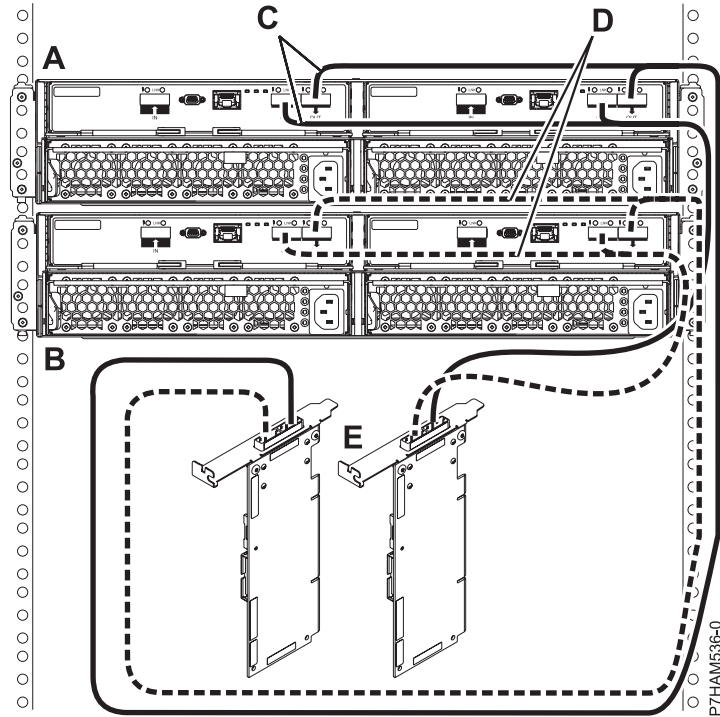

Figure 38. Mode 1 connection of two 58/87 disk drive enclosures by using YO cables to a SAS adapter pair
11. Perform the mode 1 connection of two 58/87 disk drive enclosures (**A and B**) by using YO cables (**C and D**) to a SAS adapter pair (**E**) as shown in Figure 38 on page 69.